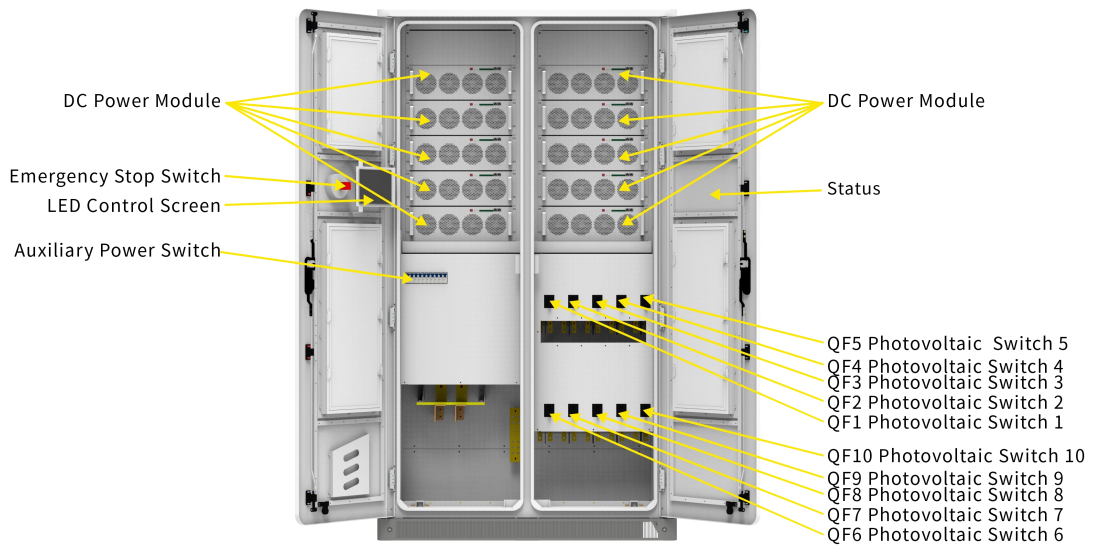

Figure 4.2 DC PV Cabinet ESS-GRID P500L Distribution Switch Location Map
- 3) Referring to Figure 4.2, breaking QF1~10 PV switch, breaking auxiliary power switch MCB1; and